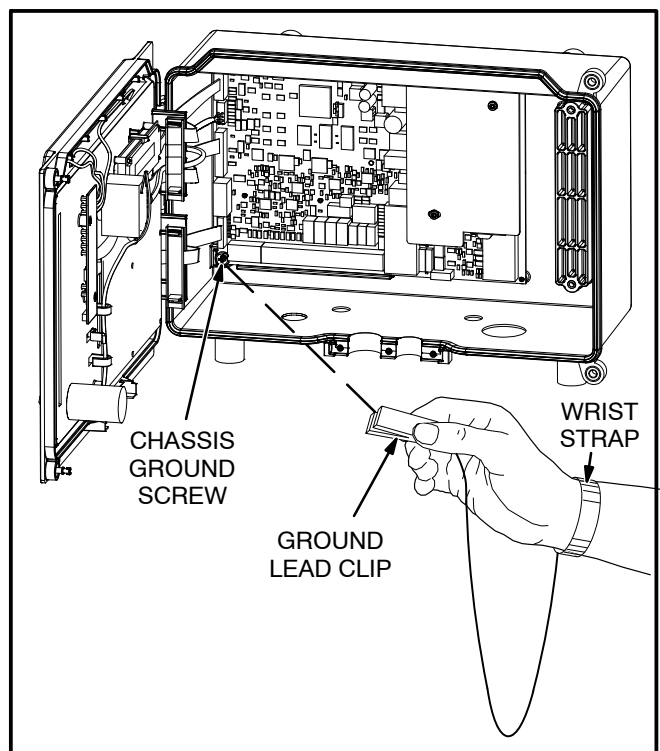

FIGURE 10-1. WRIST STRAP
Attach the clip to the chassis ground connection in the lower left-hand corner of the control box and place the strap around your wrist before handling a circuit board (see Figure 10-1).
6. Use a wrist strap, or touch a grounded surface to discharge any static charge before handling circuit boards (see Figure 10-1).